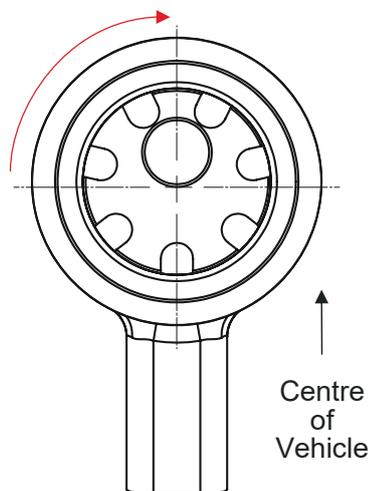

Figure 2
6. For maximum camber use supplied spanner to rotate sleeve so that the bore is closest to centre of vehicle, as shown in Figure 2.